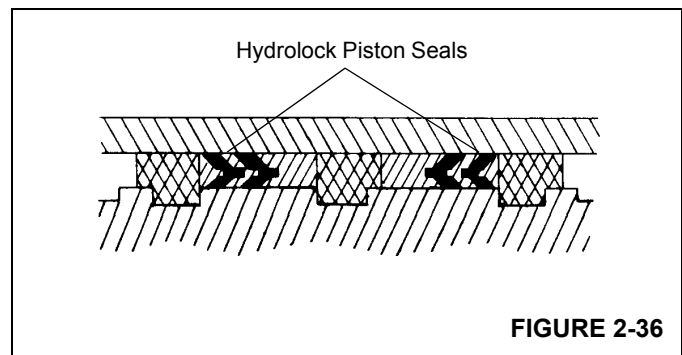

FIGURE 2-36
11. Install the replacement hydrolock seals on the outside of the piston, Figure 2-36. Make sure the "vees" on the two hydrolock seals point at each other.